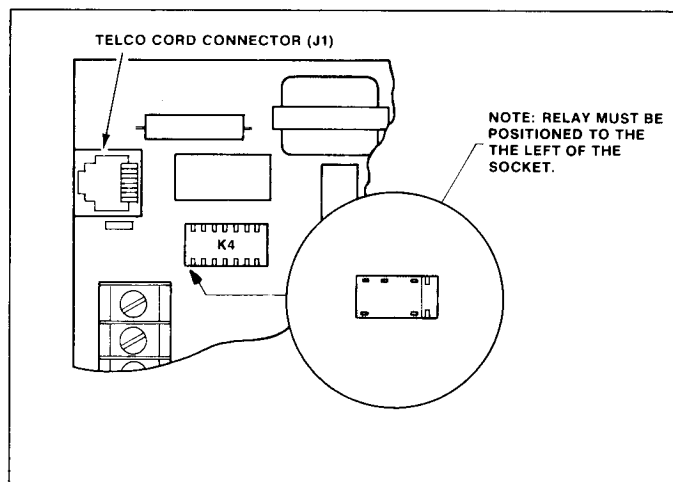

Figure 7: GROUND START RELAY INSERTION
- 12.5 Ground Start Systems** - Some telephone systems require a momentary ground to initiate dial tone. To interface with a ground start system, a plug-in relay (Radionics model #D136) must be installed into socket K4 as shown in Figure 7. NOTE: The plug-in relay has two legs on one side and three legs on the other side. When inserting the relay, always ensure that the three leg side is facing upwards and the two leg side is facing down.